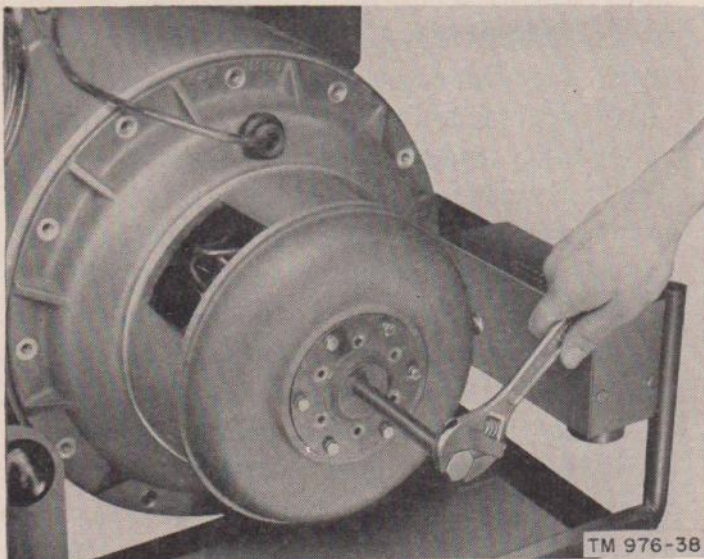

Figure 38. Removing end bell assembly.
- (1) Remove the brush cover assembly (1) from the end bell (2).
- (2) Disengage the exciter leads (3) from the brush holder assembly (4). These leads are accessible through the end bell openings.
- (3) Remove the brush spring assemblies (5, 6) and pull the slip ring brushes (7) and commutator brushes (8) out of the brush holder. This will prevent possible damage to the slip-ring insulation during removal of the end bell.
- (4) Remove the bolts (9) and washers (10) from the bearing cover plate (11). Remove the bolts (12), lock washers (13), and washer (14) which are used to secure the end bell to the stator housing (15). Install the puller bolt (supplied with the unit) into the center-tapped hole of the bearing cover plate. Turn the puller clockwise until the end bell breaks loose (fig. 38). Slowly pull the end bell away from the stator housing. Be careful not to damage the brush holder assembly and the slip-ring insulation. Remove the bolts (16) and washers (17) and remove the bearing cover plate.
- (5) Remove the nut (18), lock washer (19), and flat washer (20). Remove the screw (21) and lock washer (22) and remove the brush holder assembly (14) and the capacitors (23) from the end bell.
- (6) Clean the end bell with fuel oil (D-40 or D-35) or cleaning solvent and examine it thoroughly for cracks.
- (7) Inspect the complete brush holder assembly for corrosion and wear. Check for free movement of the brushes in the brush holders. Check the length of the brushes. Brushes worn to less than one-half inch long must be replaced. Check the brush spring tension. Hook a scale under the spring near the brush and pull in a line parallel with the side of the brush. The tension reading should be taken just as the spring leaves the brush. Tension of the commutator brush spring should be 30 to 40 ounces; tension of the slip-ring brush spring should be 16 to 20 ounces.
- (8) New brushes must be seated correctly to the commutator and slip ring. Place a strip of No. 0000 sandpaper, sanded side out, around the commutator or slip ring. With the brushes riding on the sandpaper under normal spring tension, hold the two sides of the sandpaper parallel to each other and pull in the normal direction of the commutator rotation. Repeat this procedure until correct seating is attained for all new brushes.
- (9) Test the four capacitors (23) for shorts with an ohmmeter.